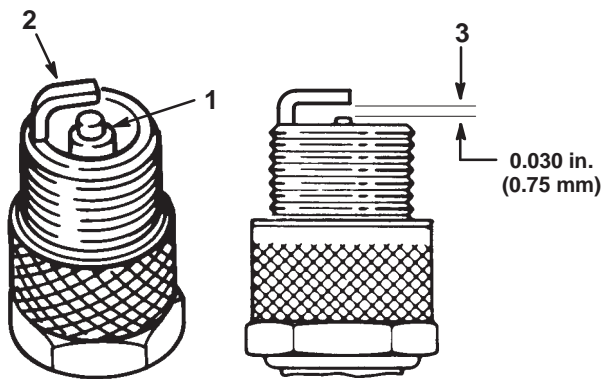

Figure 42
1. Look at the center of the spark plugs (Fig. 42). If you see light brown or gray on the insulator, the engine is operating properly. A black coating on the insulator usually means that the air cleaner is dirty.
2. Check the gap between the center and side electrodes (Fig. 42). Bend the side electrode (Fig. 42) if the gap is not correct.